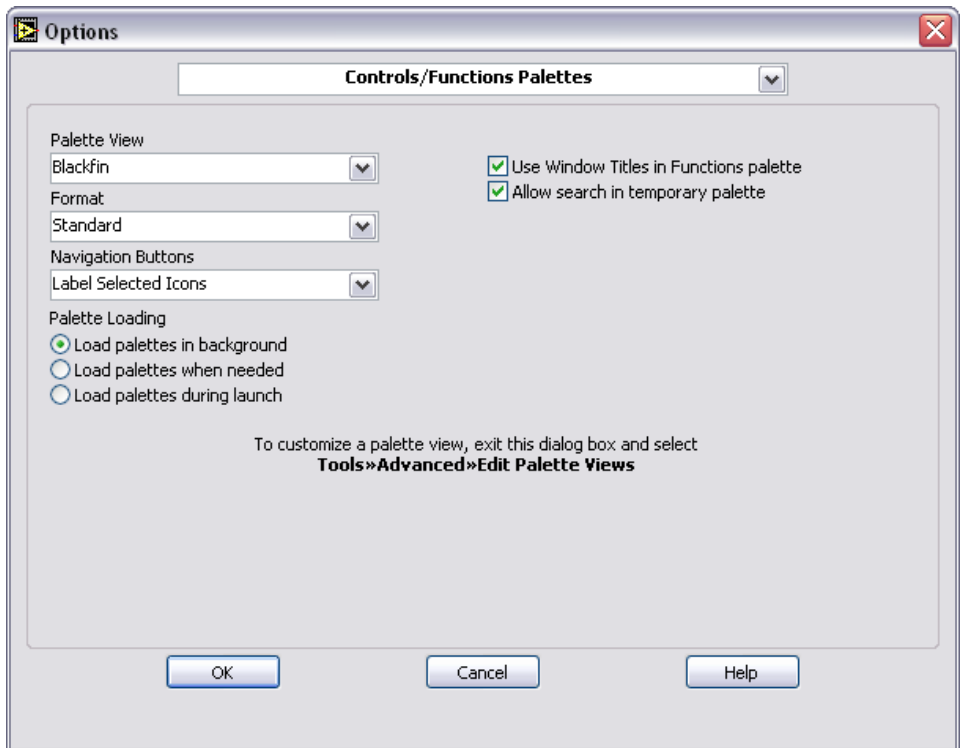

Figure 3. Verifying the Palette View
3. Verify **Blackfin** is the palette view in the **Palette View** pull-down menu as shown in Figure 3.